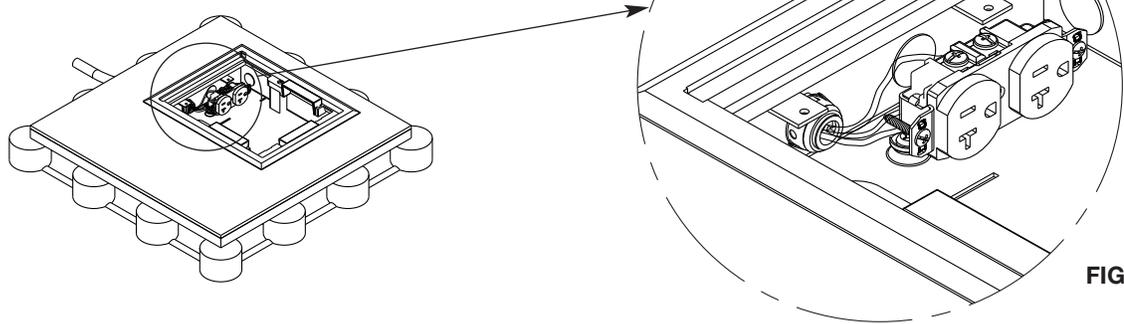

FIG. 7
Step 6 Attach electrical conductors to the UL Listed duplex receptacles (provided by others). Make sure that any ground leads are connected to ground screws. (See Fig. 7.)